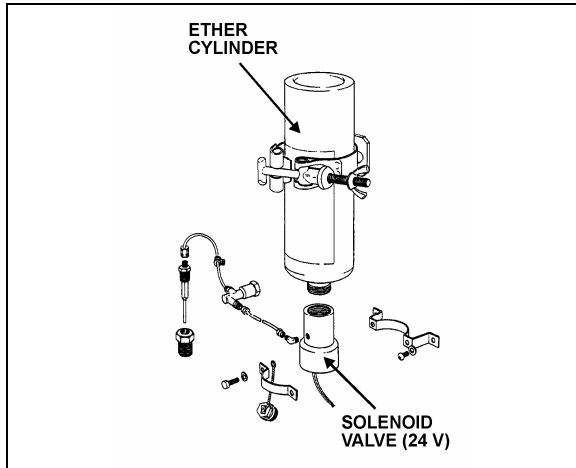

FIGURE 22: COLD STARTING AID
1. Check cylinder for hand tightness and fuel supply (Fig. 22). Empty cylinder weight is approximately 17 oz (480 g); full cylinder weight is approximately 35 oz (990 g). If cylinder is empty, replace it. Before replacing cylinder, install new valve gasket in solenoid valve.